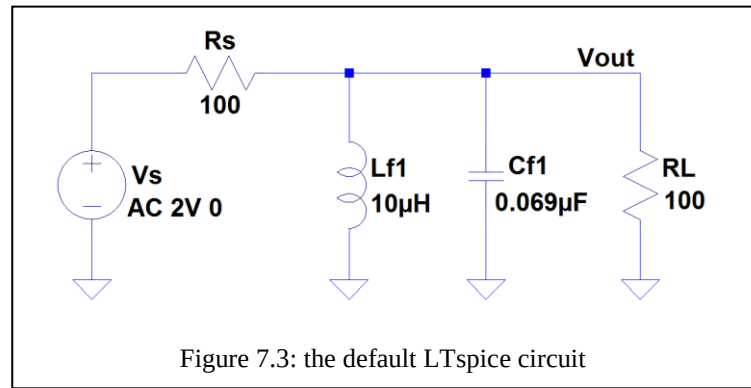

Figure 7.3: the default LTspice circuit
- Build the default circuit in LTspice shown in Figure 7.3 with $L_{f1} = 10 \mu\text{H}$, $C_{f1} = 0.069 \mu\text{F}$, $R_L = 100 \Omega$ And $R_S = 100 \Omega$. For the voltage source, set the Small signal AC analysis values to 2V for AC Amplitude and an AC Phase of 0.
1. Assemble the default circuit of Figure 7.3 ($L = 10 \mu\text{H}$, $C = 0.069 \mu\text{F}$, $R_L = 100 \Omega$ and $R_S = 100 \Omega$). Here you will use a parallel combination of capacitors, a 0.047 μF and a 0.022 μF , to achieve 0.069 μF .